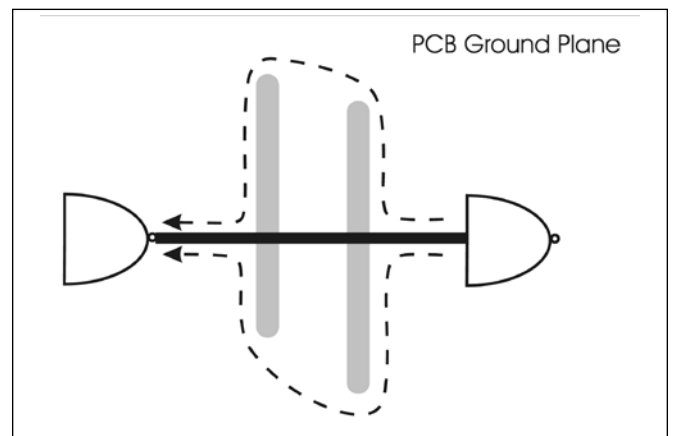

Figure 3: Signal return path is disrupted by cut in ground plane
5. Cuts in plane, as shown in Figure 3, shows a discontinuity in the signal return current path. The return path has to go around the gap in the plane, raising the characteristic impedance at the gap, and energizing the opening as a slot antenna. This can occur when a portion of the plane is stolen to accommodate another trace, at a split plane boundary, or at a connector cutout.